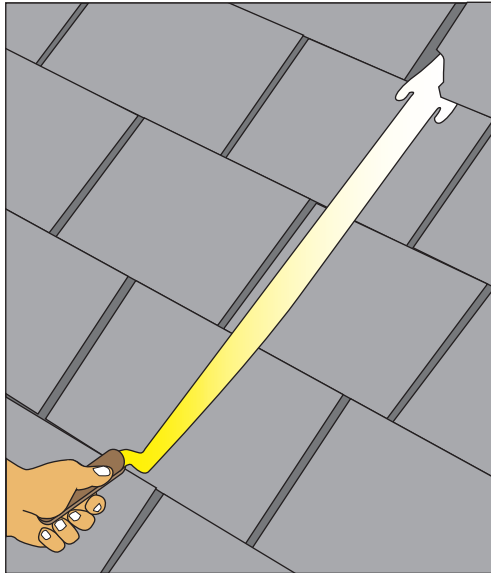

Figure 4-1:
1. **Remove the slipped or broken slate by sliding it gently downwards, so as not to disturb the overlapping course of slates above it.** If the nails are still in place in the batten, either pull them out with pliers or cut off their heads using a thin cold chisel or bolster or, better still, a purpose-made tool called a *slate rip*, shown in Figure 4-1.